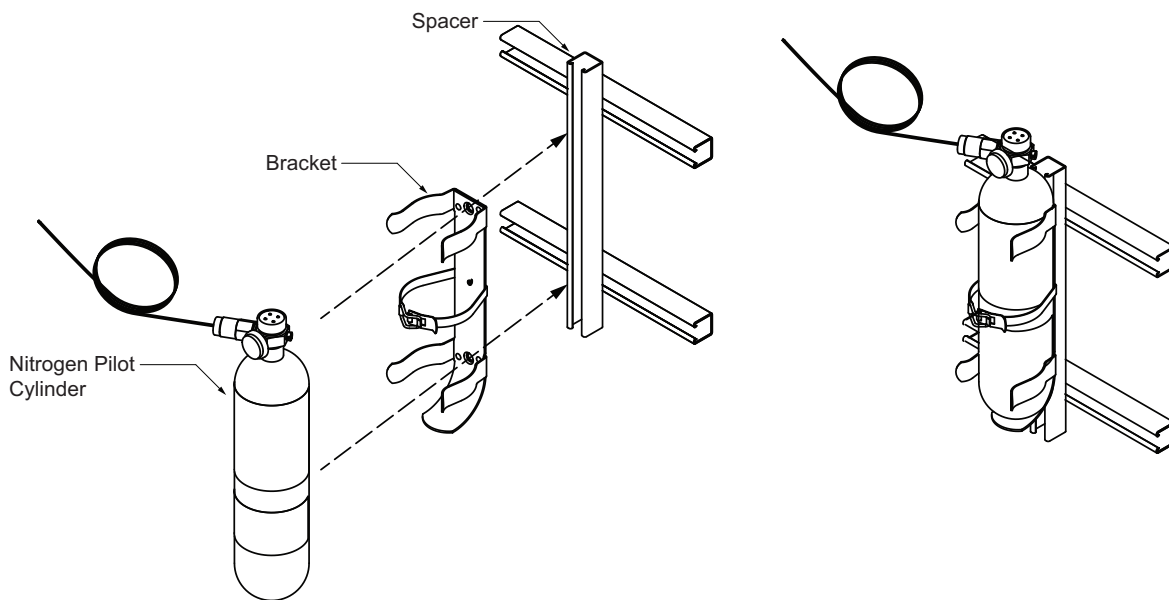

Figure 4-39. Nitrogen Pilot Cylinder with Bracket and Spacer
**Note:** If the discharge port is too close to a wall or obstruction, install the N2 pilot cylinder bracket using a spacer such as a Unistrut® channel setup as shown in Figure 4-39. One section of Unistrut may not create enough space. Ensure the spacer is structurally sound and can support the weight of the components.